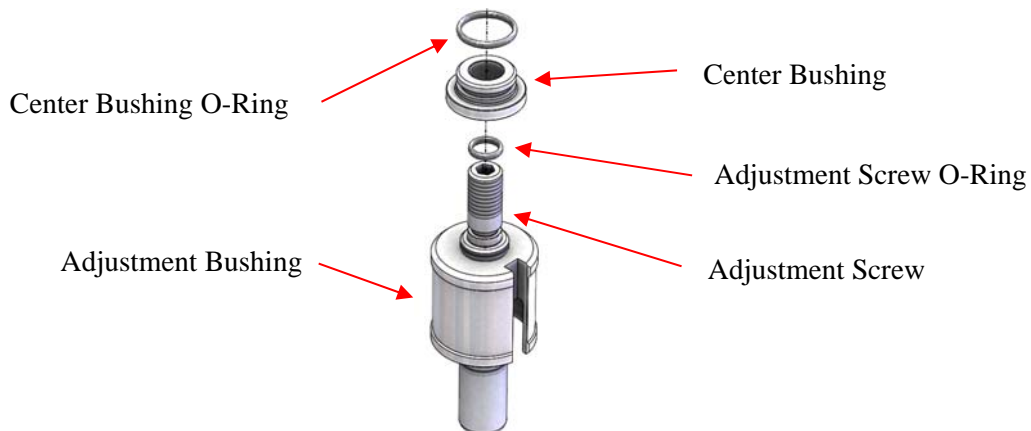

Figure 16: 1" Body Inner Bonnet Components
12. Disassemble the center bushing from the adjustment screw if they are still together. See Figure 16.
14. Remove and discard the o-ring located on the adjustment screw. See Figure 16.
15. Unscrew the adjustment bushing from the adjustment screw. The adjustment bushing has left handed threads. See Figure 16.